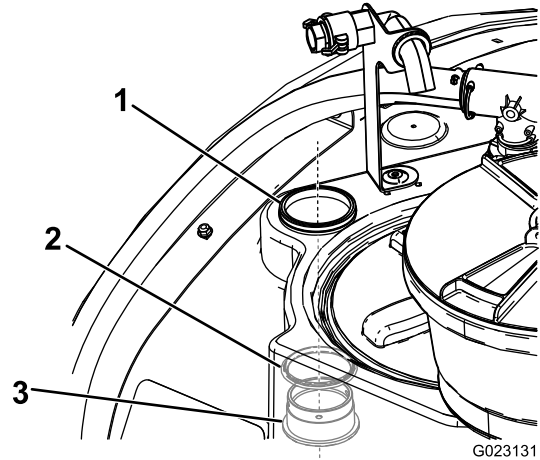

Figure 16
2. Install the bulkhead fitting and the O-ring up from inside the tank through the previously cut opening (Figure 16).